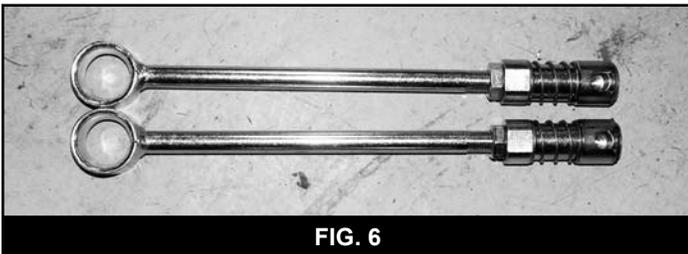

FIG. 6
32. Install the provided $\frac{1}{2}$ " jam nut then the spring loaded disconnect assembly on the threaded end of the new link. Thread the nut and assembly all the way on to the link (Fig 6).